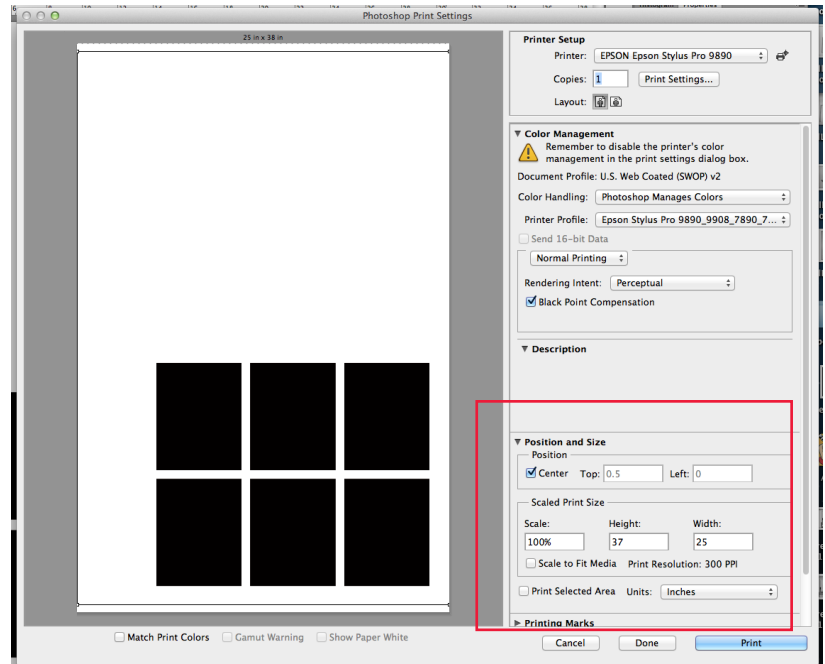

Figure 27
**Image is wrong size:** There are two main reasons for this — **image sized wrong in the file** (it is a different size in inches than the plate, or the dpi is off between the jpg file and the printer file) or the **printer is resizing** a correctly sized file for you. The first is a very easy fix— verify the file and place dimensions and dpi, and the printer file dimensions and dpi. Sometimes, however the **printer is resizing a file** for you when it should have been correctly sized. In this case, it check the printer settings and ensure the file is printing at 100% and not 'print to scale' (see Figure 27). Changing these settings so that no scaling is occurring, or moving the image around on the page can also help. If you still keep running into the problem and it is neither of the above solutions, then it is probably something buried a little deeper in the printer settings, and it may be helpful to look up how your specific printer handles scaling in the printer dialogue.